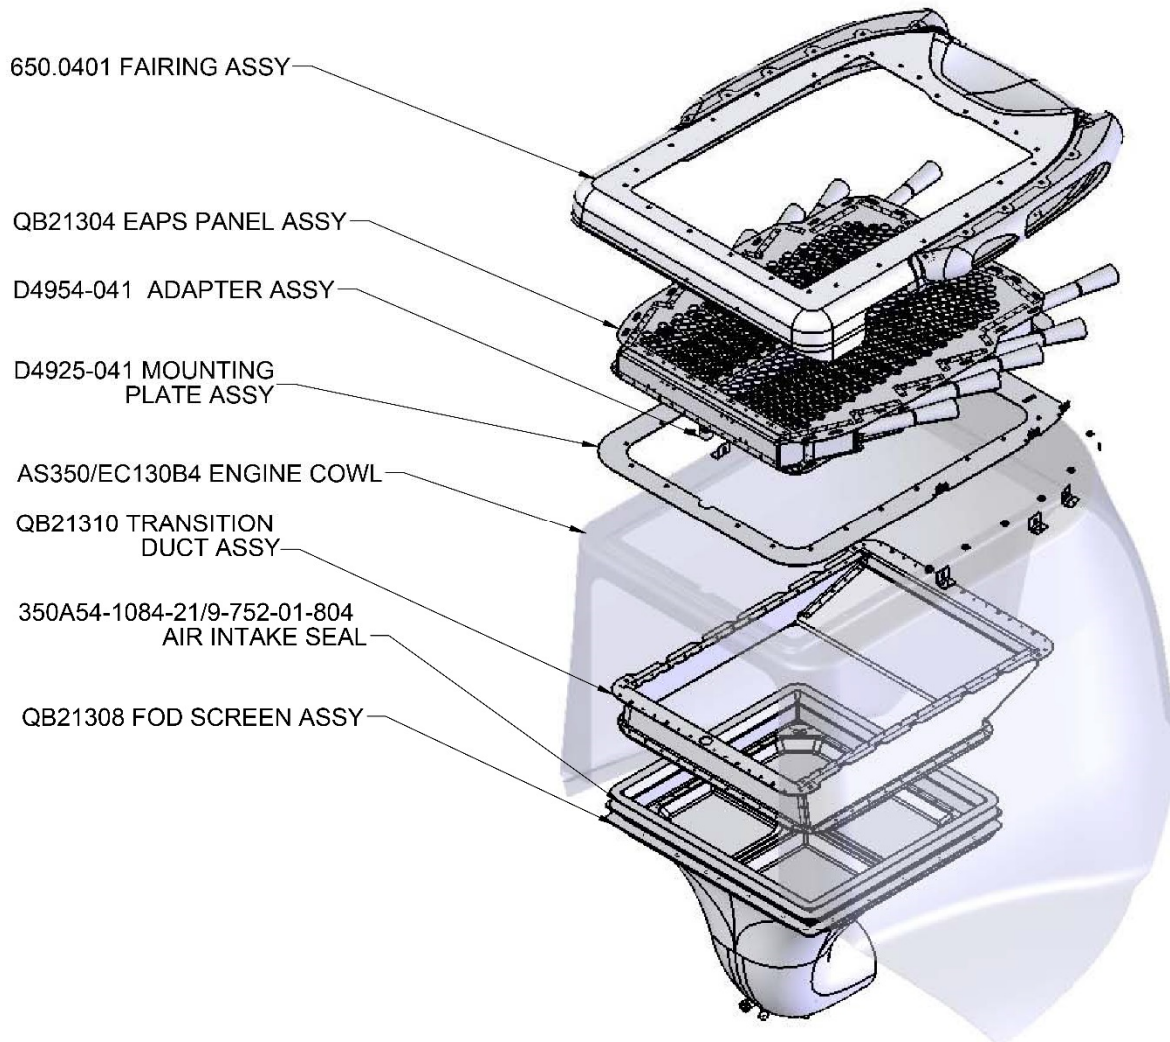

Figure 12 – FOD Screen Installation
- 3.1.23. Install the QB21308 FOD Screen in between the Engine and the 350A54-1084-21/9-752-01-804 Air Intake Seal as shown in Figure 12.